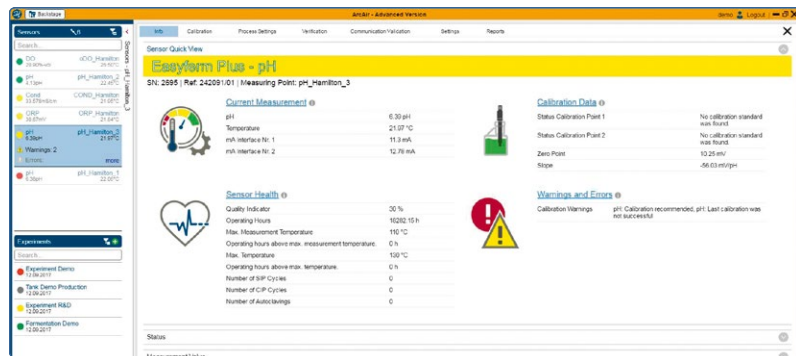

Fig. 24: Quick View of pH Arc sensor with an active warning
- 2) Control the traffic lights in the sensor list or Quick View (Figure 24).